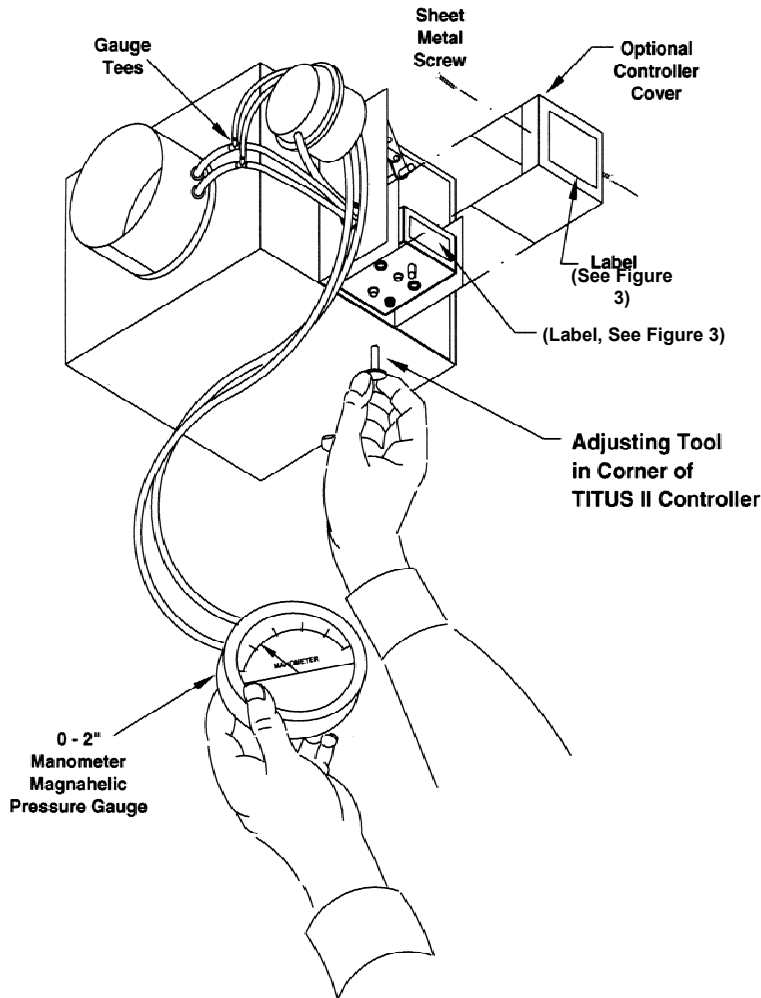

Figure 1. Adjusting Air Flow
1. Remove the optional controller cover (Figure 1).